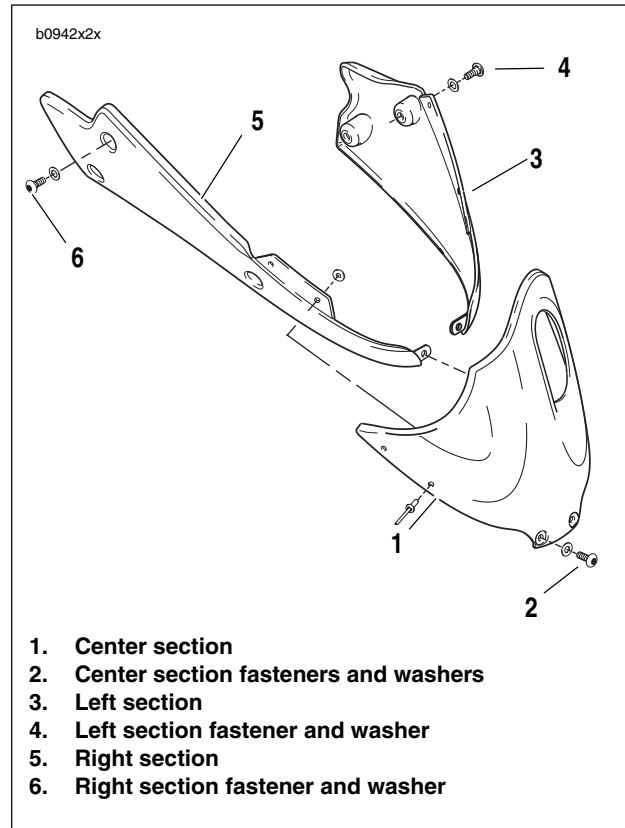

Figure 2-110. Chin Fairing Assembly
3. See Figure 2-110. Remove center section fasteners and washers (2).
4. Remove left section fasteners and washers (4).
5. Remove right section fasteners and washers (6).
1. See Figure 2-110. Position chin fairing (5) and install with right side fasteners and washers (6).
2. Align left section (3) and install with left side fasteners and washers (4).
4. Align center section (1) and install with center section fasteners and washers (2). Use LOCTITE 272 (red) on all fasteners tightening to 36-48 in-lbs (4-5 Nm).